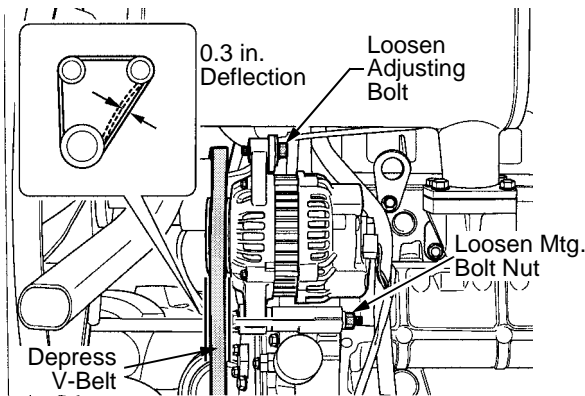

Figure 41
- With approximately 22 lbs. of pressure, depress the backside of the belt at its center point between the alternator and lower engine pulley. The deflection of the belt should be approximately 0.3 inches. See Figure 41.
- If adjustment is needed, loosen the nut on the alternator mounting bolt and loosen the adjusting bolt. See Figure 41.